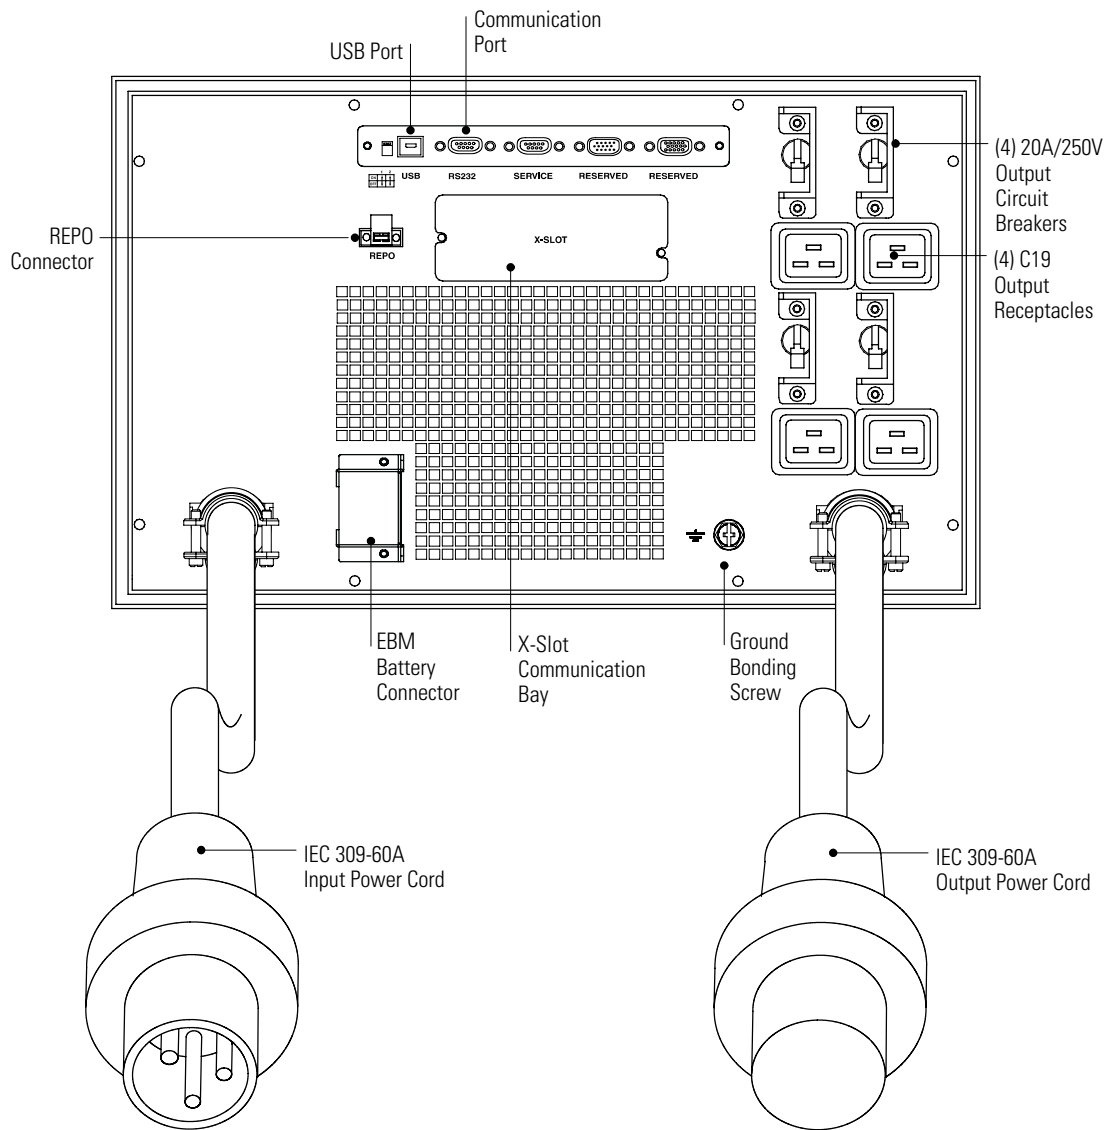

Figure 27. Plug-Receptacle UPS Rear Panel
1. Verify that all circuit breakers are in the OFF (O) position.
3. If your rack has conductors for grounding or bonding of ungrounded metal parts, connect the ground cable (not included) to the ground bonding screw. See Figure 27 on page 51 for the location of the ground bonding screw.
4. Plug the equipment to be protected into the UPS output receptacles, but do not turn on the protected equipment (see Figure 27).